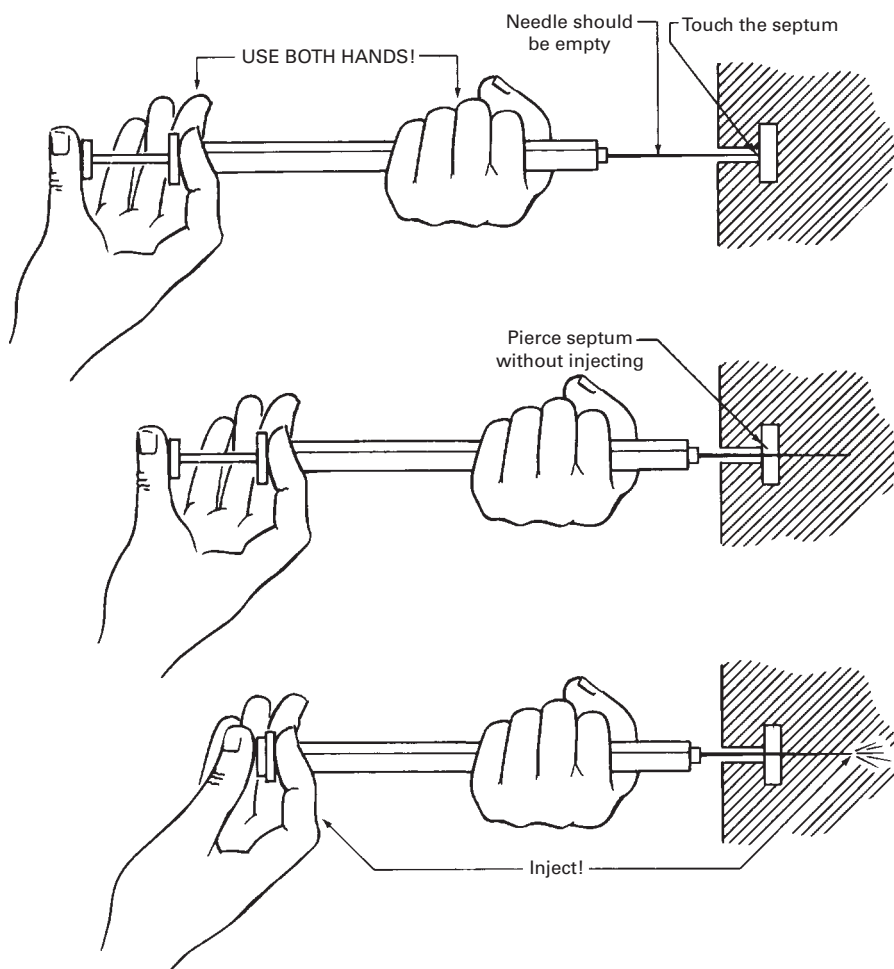

FIGURE 30.3 Three little steps to a great GC.
2. Hold the syringe in *two hands* (Fig. 30.3). There is no reason to practice being an M.D. in the organic laboratory.